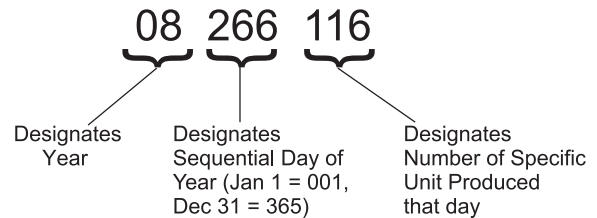

Figure 12: Serial Number Structure (Before 2010)
- Units manufactured prior to October 2010 are identified by unique 8-digit serial numbers shown in Figure 12. The serial number contains the year and calendar day of manufacture, as well as the unit's production number that day. The H300 & H850 serial number is etched on the cryogenic container and is visible through the contents indicator window on the back of the unit.